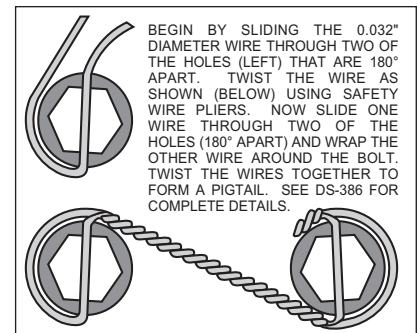

Figure 6. Safety Wire Diagram
•With the slot pointing upward and the mounting ears pointing towards the rear of the vehicle, install the caliper mounting bracket (1) to the housing flange using the stock Original Equipment Manufacturer (OEM) bolts and nuts. Stock OEM hex nuts that retain the bracket (1) should be on the wheel side of the bracket. Apply red *Loctite*® 271 to the stock OEM bolt threads and torque to OEM specifications. **NOTE:** Some brackets act as the bearing retainers, while others help locate the bearing in the axle housing flange. If the stock bearing plates are still on the axle, the caliper mounting brackets (1) should be located between the axle housing flange and the bearing retainer plate. Make sure the heads of the caliper mounting bracket insert nuts are **FACING OUTWARD TOWARDS THE WHEEL.**
•Bolt the hat (2) to the rotor (3) using lock washers (4) and bolts (5). Torque bolts (5) to 180 **in-lb.** Safety wire bolts (5) using standard 0.032 inch diameter stainless steel safety wire as shown in Figure 6. Please refer to Wilwood's data sheet DS-386 (available at [www.wilwood.org/ds386.pdf](http://www.wilwood.org/ds386.pdf)) for complete safety wire installation instructions.
•Align the correct hole pattern in the hat (2) with the stud pattern on the axle flange. **NOTE:** Some OEM and after market axles come with stud sizes larger than 0.50" diameter. Verify stud size and have a qualified machine shop drill the hats to the correct size. Slide the hat/rotor assembly (2 and 3) over the wheel studs and against the axle flange face.
•WITH THE BLEED SCREWS POINTING UP, mount the caliper (6) over the rotor (3) and onto the caliper mounting bracket (1) using lock washers (7) and mounting bolts (8). View the rotor through the top opening of the caliper. The rotor should be aligned in the center of the caliper. If not, adjust the caliper by using 0.032 inch shim washers (9), placing them between the caliper mounting bracket (1) and the caliper (6). Apply red *Loctite*® 271 to the mounting bolt threads (8), torque bolts to 30 ft-lb. Safety wire the caliper mounting bolts (8).